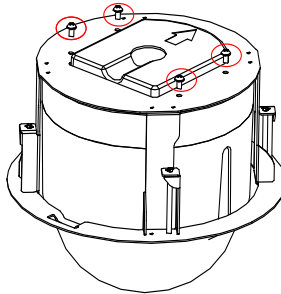

Figure 1-38 Remove the Screws
1. Loosen and remove the 4 screws as shown in Figure 1-38.